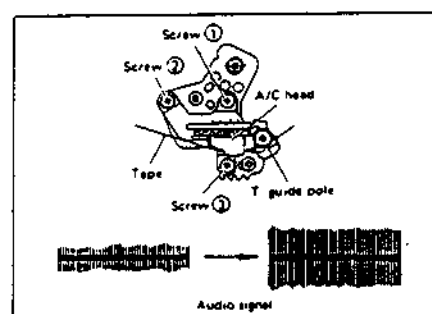

Fig.1-5-1
- 1) Adjust the 3 screws (screw 1, 2, 3 in Fig.1-5-1) to set the audio/control head height to 6.6 mm. Adjust all screws equally.
- 3) Adjust Black Screw 2 on the head base in Fig.1-5-1 so that the output level is at a maximum.
- 4) Readjust Screw 1 shown in Fig.1-5-1 for maximum output.